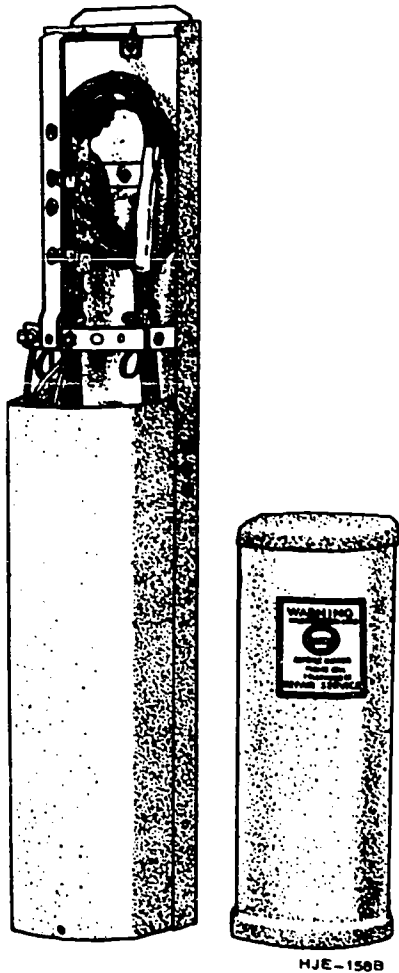

Figure 1-15. Typical pedestal mounted terminal.
b. Pedestal Mounted Terminal. The pedestal of figure 1-15 consists of a backplate, lower cover section, and upper cover section. The lower section and the associated back plate area are buried at least 10 inches to protect the exiting cables as they are brought up to the terminals in the upper section. Note, too, that there is a removable protective cover for the upper section.